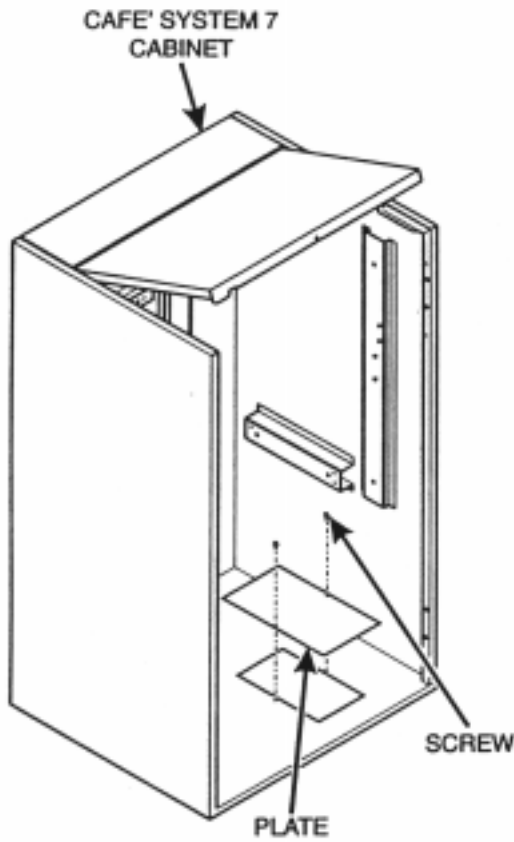
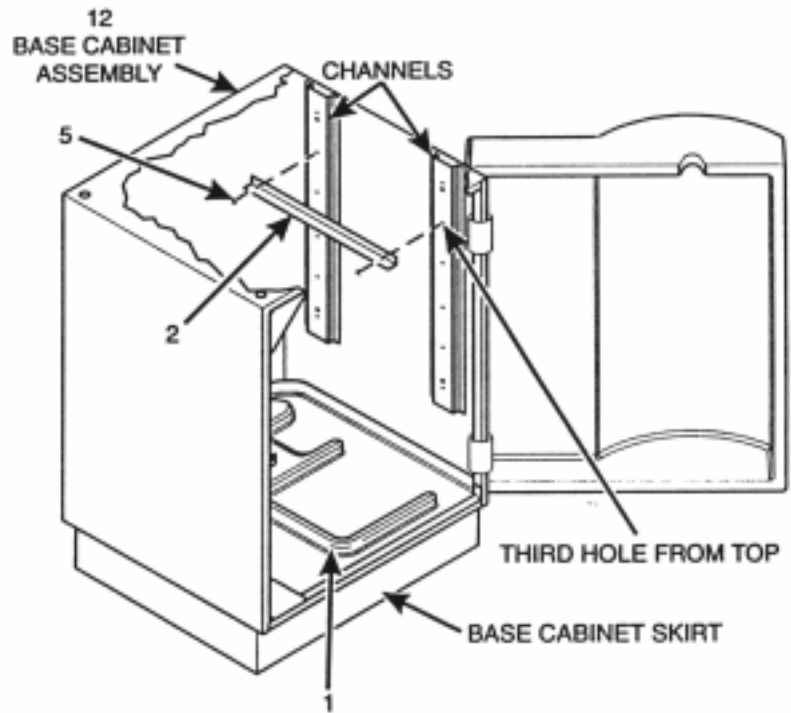

Figure 1
Figure 2
1. Remove the floor liners and grounds buckets from the base cabinet (12) and the Cafe' System 7.
3. Remove two screws securing the plate to the bottom of the Cafe' System 7 as shown (figure 1). Remove the plate.
4. Place the floor liner you removed from the base cabinet (1) into the Cafe' System 7. (This floor liner has a rectangular hole to allow coffee grounds and filter paper to pass through it into the base cabinet.)
5. Install the waste bucket spacer (2) to the holes on the right side of the cabinet as shown (figure 2). Secure with two screws (5).
6. Install the narrow base cabinet shelf (4) in the desired location on the left side of the base cabinet. Secure with screws (5). (The recommended mounting location is the fourth set of holes from the top.)